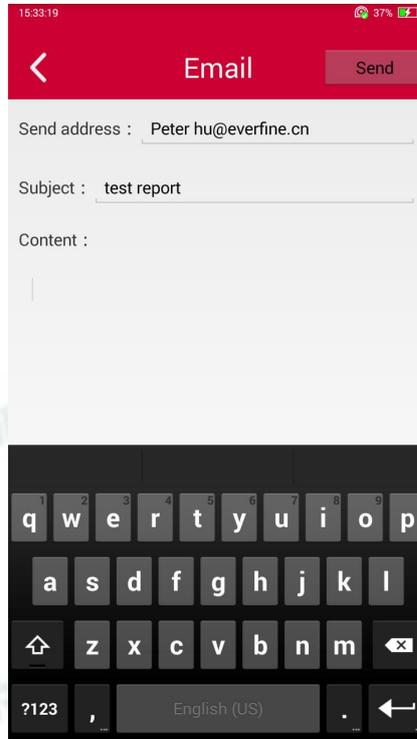

Fig 4.10 Send test data by mail
-  Share button: click to send test data to the designated mailbox, as shown in Figure 4.10.